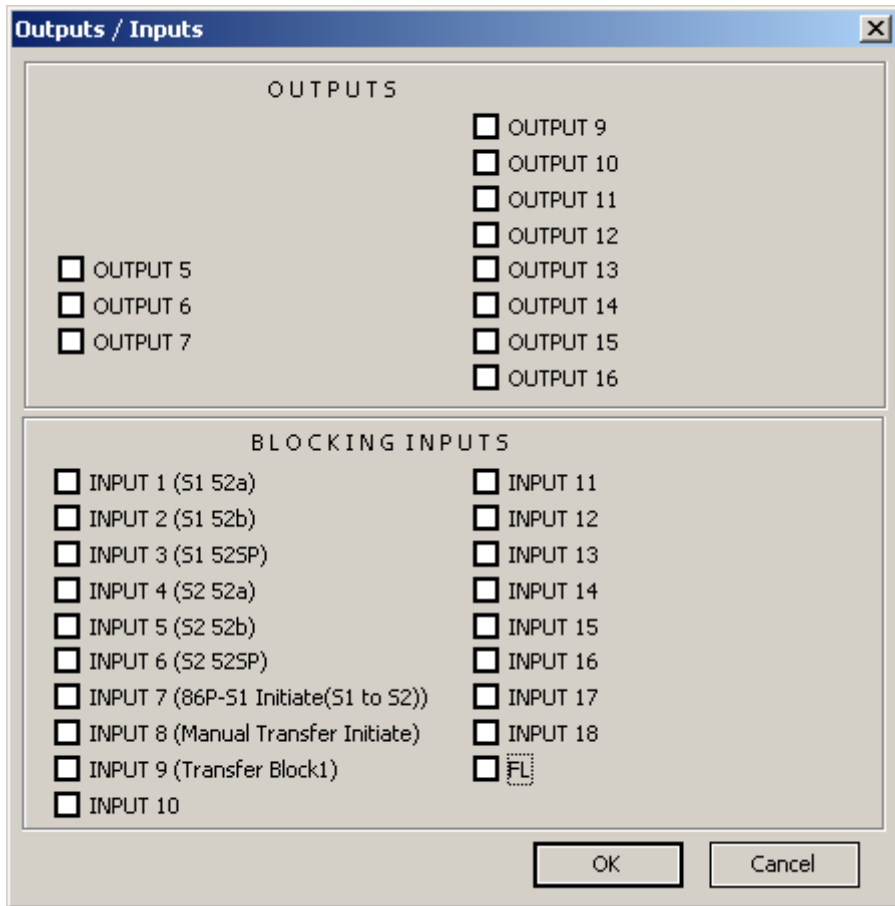

Figure 4-83 81 #1(2) Bus Voltage Frequency Function Inputs/Outputs Selection Dialog Screen
**I/O Selection** — The I/O Selection button opens the 81 #1 Bus Voltage Frequency I/O Selection Dialog Screen (Figure 4-83) that allows any input or the Fuse Loss (FL) function to be selected to block the 81 #1(2) Function. The 81 #1(2) Function can also be used to activate a selected output when it times out.
**Save/Cancel** — The Save selection saves the 81 #1(2) Bus Voltage Frequency Function Dialog Screen settings either to an open file or to the target MBTS. Cancel, returns the user to the previous open screen.